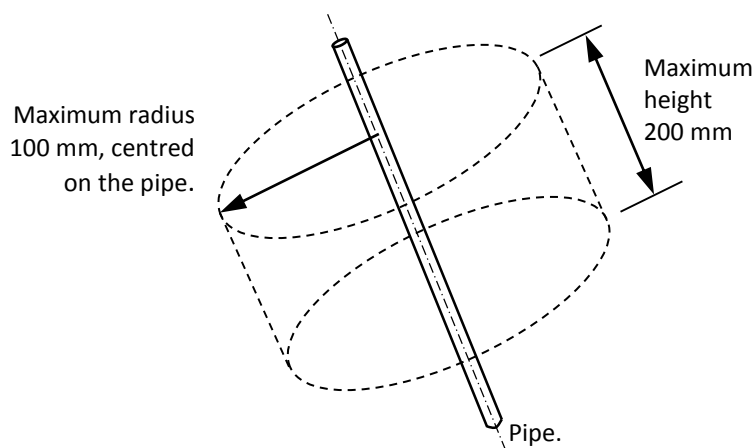

Figure 2. Space envelope for the lifting robot.
See also Figure 2.
- f) The ‘robot’ must be self-contained and at all times during the competition fit within a cylindrical envelope of 200 mm diameter and 200 mm height, as shown in Figure 2 below.
- g) Each robot must have a quick and simple method of attaching and detaching the chain which should not require the use of tools. It is up to individual teams as to how this is achieved but any coupling must not cause the robot to violate the dimensions shown in Figure 2. Failure of the attachment or loss of the chain will result in disqualification from the heat.